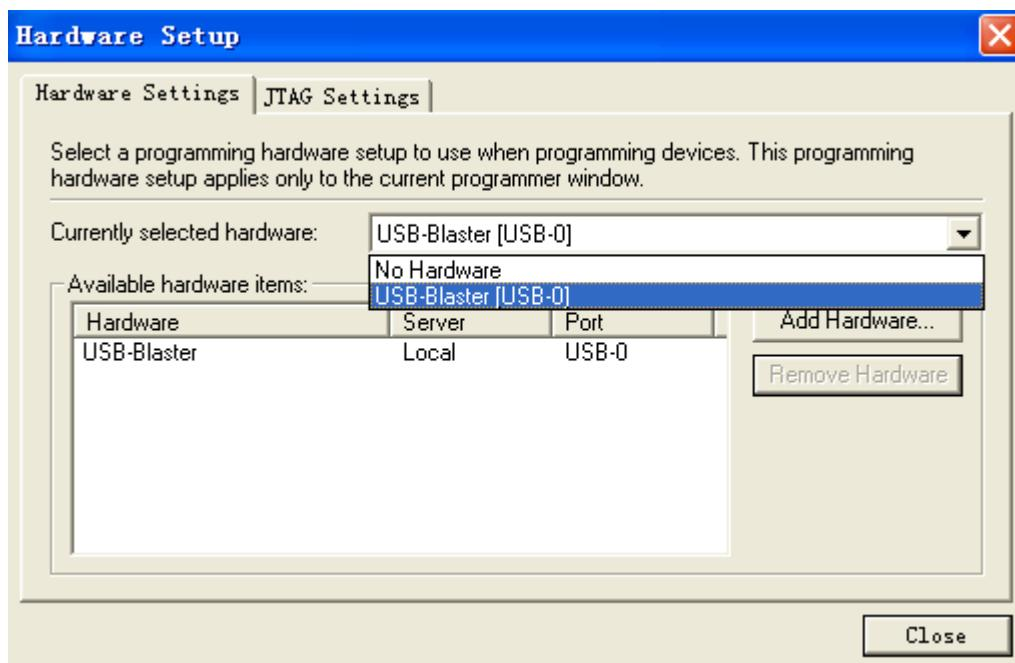

Figure 4-4 Hardware Setting
3. If it is not already turned on, turn on the USB-Blaster [USB-0] option under currently selected hardware. See **Figure 4-4**.